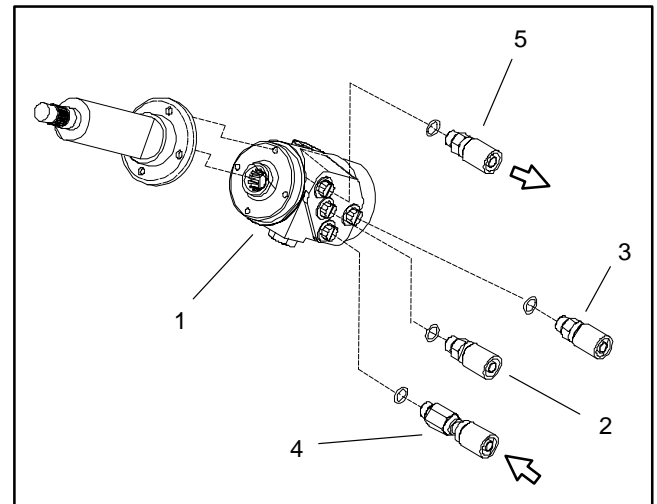

Figure 46
1. Slide steering control valve onto steering column. Secure steering column and control valve to frame with four (4) cap screws.
3. Lubricate new o-rings and connect hydraulic hoses to steering control valve (Fig. 46). Tighten hose connections.